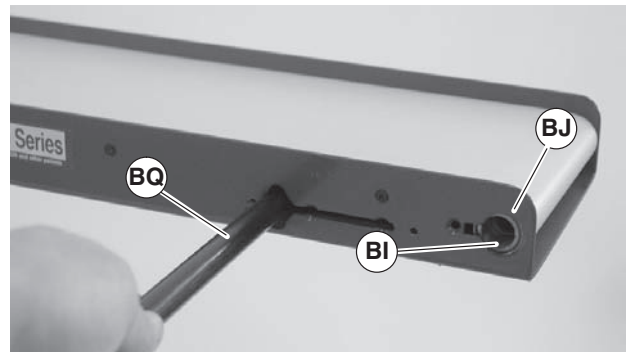

Figure 49
3. Using pulley installation tool (Figure 49, item BQ) as a lever, align pulley bore (BI) with hole (BJ) in conveyor frame.